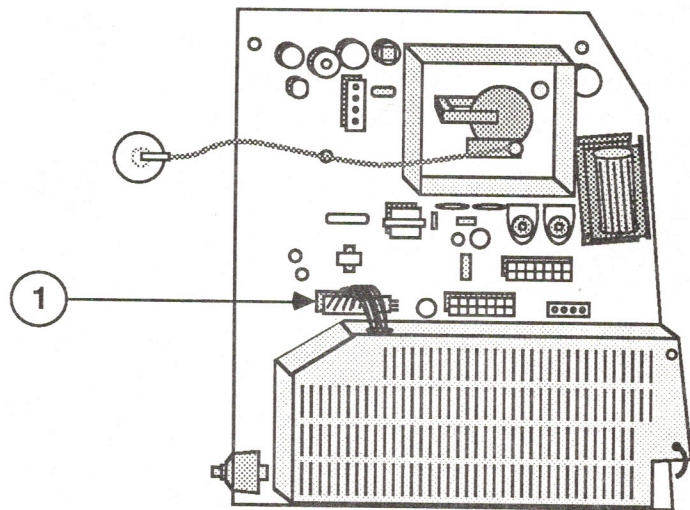

FIGURE 10
4. Reconnect the power supply cable (Figure 10, #1).